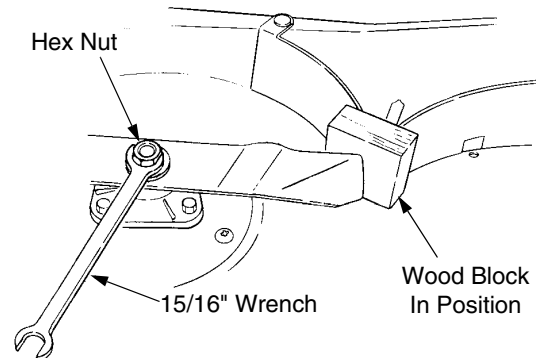

Figure 34
- Use a 15/16 inch wrench to hold the hex nut on top of the spindle assembly when loosening the hex nut securing the blade. A block of wood may be placed between the deck housing and the cutting edge of the blade to assist in removal of the hex nut securing the blade. Refer to Figure 34.